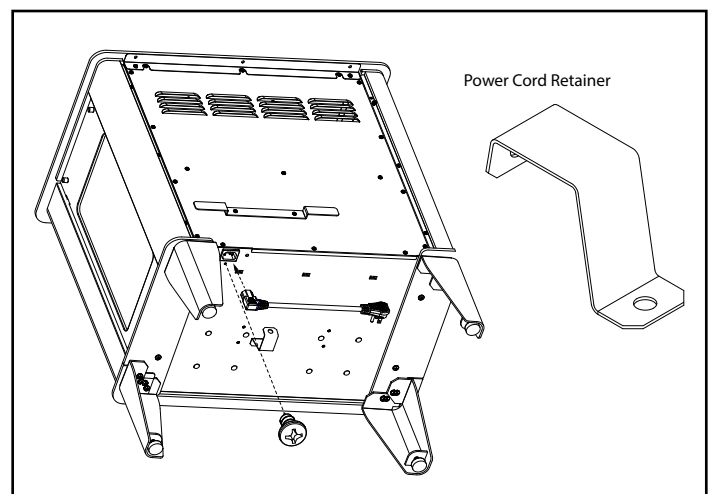

Figure 3.5 - Power Cord Installation
**Note:** Power cord is approximately 7.8 feet (2.37 m) long, and is connected to the right rear bottom of the appliance. See Figure 3.5